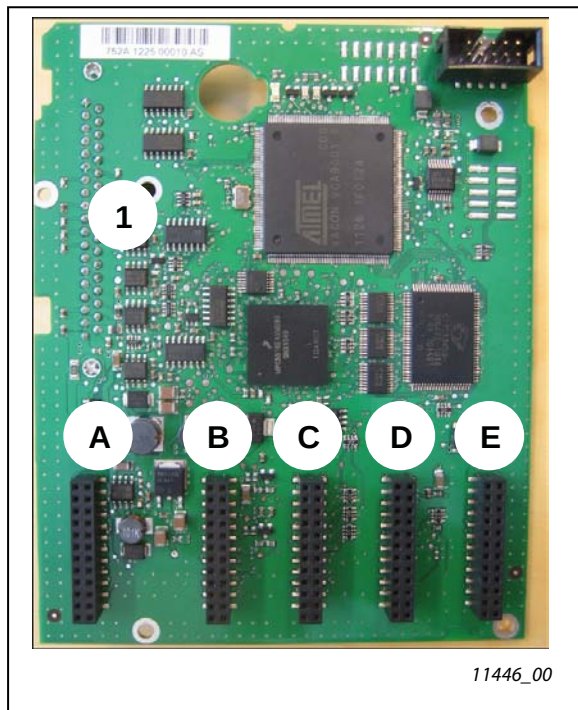

Figure 6-25. NX control board
The control unit of the frequency converter consists roughly of the control board and additional boards (see Figure 6-25 and Figure 6-26) connected to the five *slot connectors* (A to E) of the control board. The control board is connected to the power unit through a D-connector (1) or fibre optic cables (FR9).